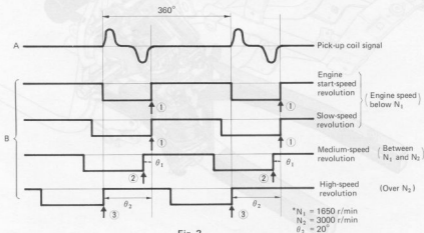

Fig. 2
When the signal rotor is rotated in the system block diagram above, the signal "A" is generated in the pick-up coil. The thus-generated signal will be converted to the signal wave-form "B" at the inside of the ignitor unit and ignition timing is controlled in response to the engine speed as shown in Fig. 2. That is, timing controlled in the ignitor unit becomes ① when the engine speed is lower than N_1 , and it becomes ② when the engine speed is between N_1 and N_2 . The advanced angle when ignited with ② is θ_1 . When higher than N_2 , timing is ③, and the timing does not advance any more. The maximum advanced angle is θ_2 .